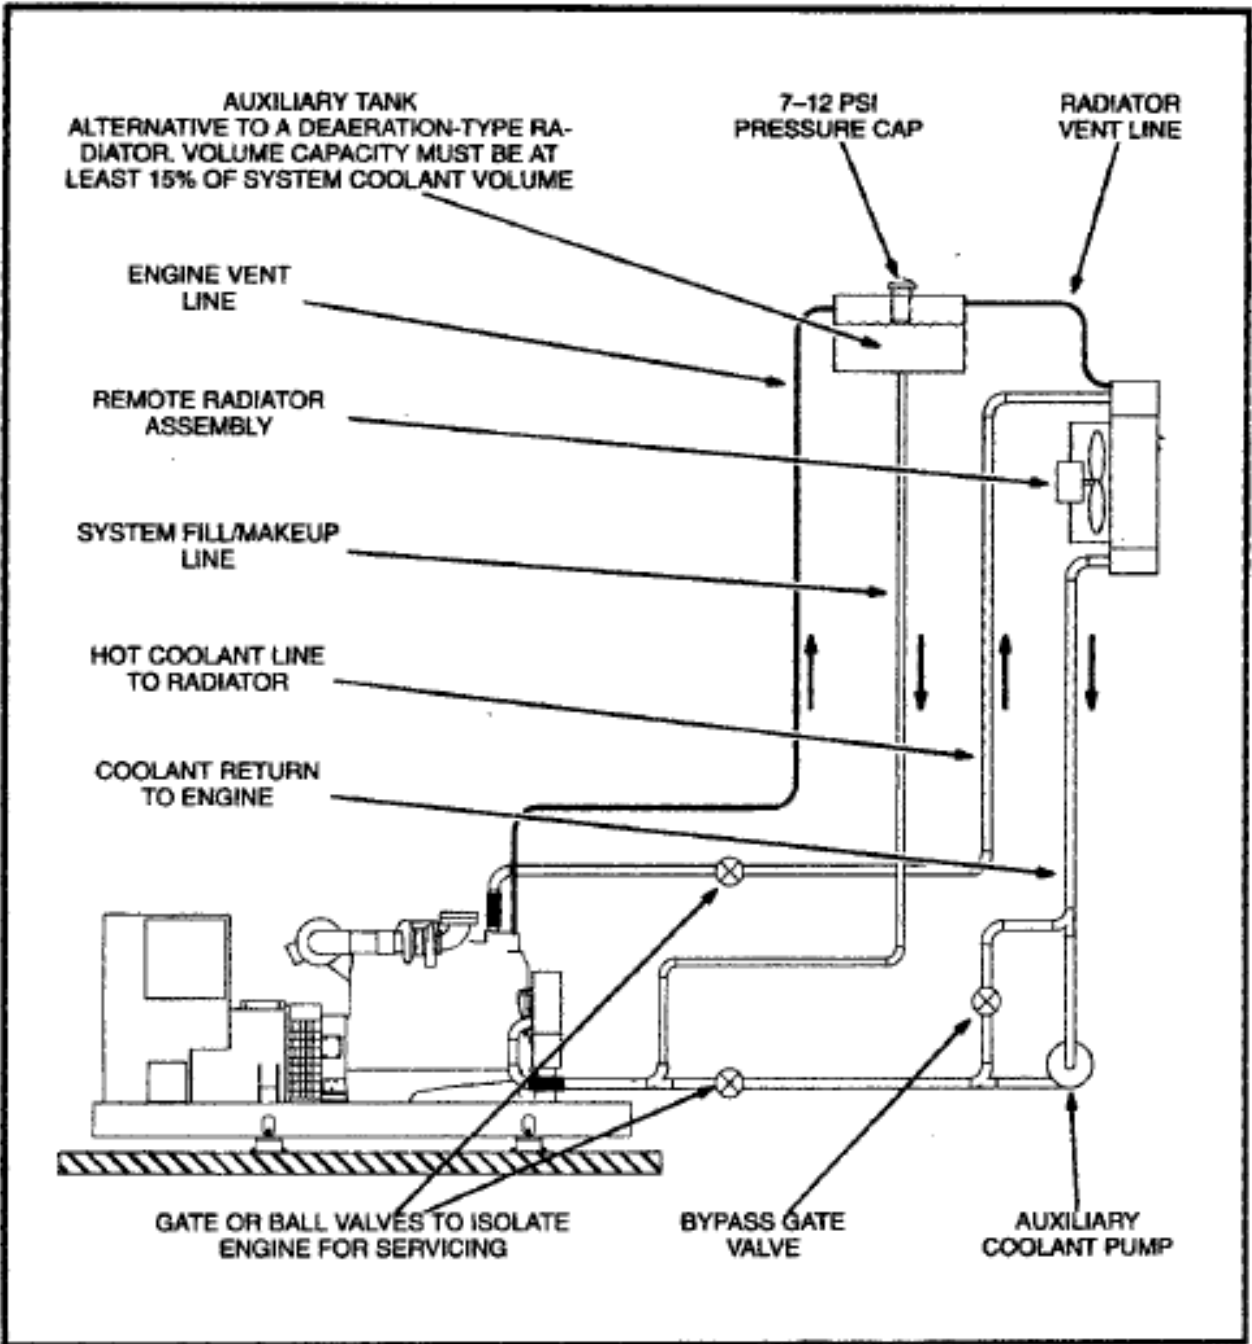

FIGURE 28. REMOTE RADIATOR WITH AUXILIARY COOLANT PUMP AND AUXILIARY TANK
**Remote Radiator with Auxiliary Coolant Pump:** A remote radiator with an auxiliary coolant pump (Figure 28) can be used if coolant friction exceeds the allowable value on the generator set Specification Sheet. In addition to the considerations under Remote Radiators, consider the following: